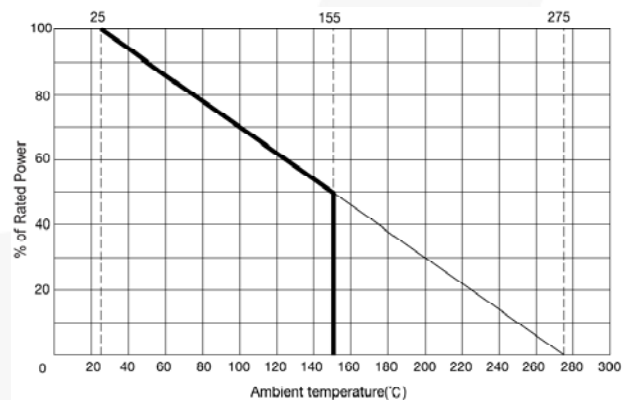

Figure 21. Derating Curve Example of Shunt Resistor (from RARA ELEC.)
- Derating ratio of shunt resistor at $T_{SHUNT}=100^\circ\text{C}$: 70% (refer to Figure 21)